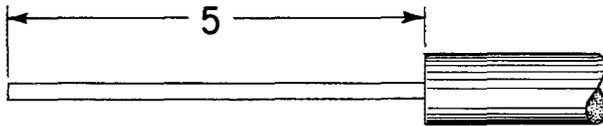

Fig. 15
- (a) After point on line where end seal is to be installed is determined, cut transmission line as described in (A), Step (a). Cut back outer conductor of transmission line 5 inches. See Fig. 15.